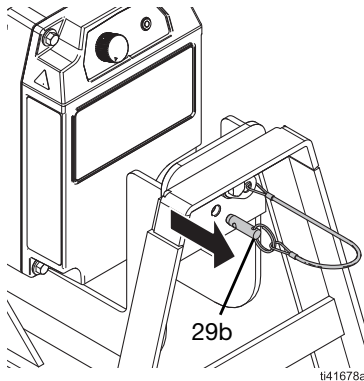

FIG. 16: Quick Release Pin, Rotating Stand
**For equipment with a rotating stand:** Remove the quick-release pins (29b) and rotate the equipment to drain. See FIG. 16.